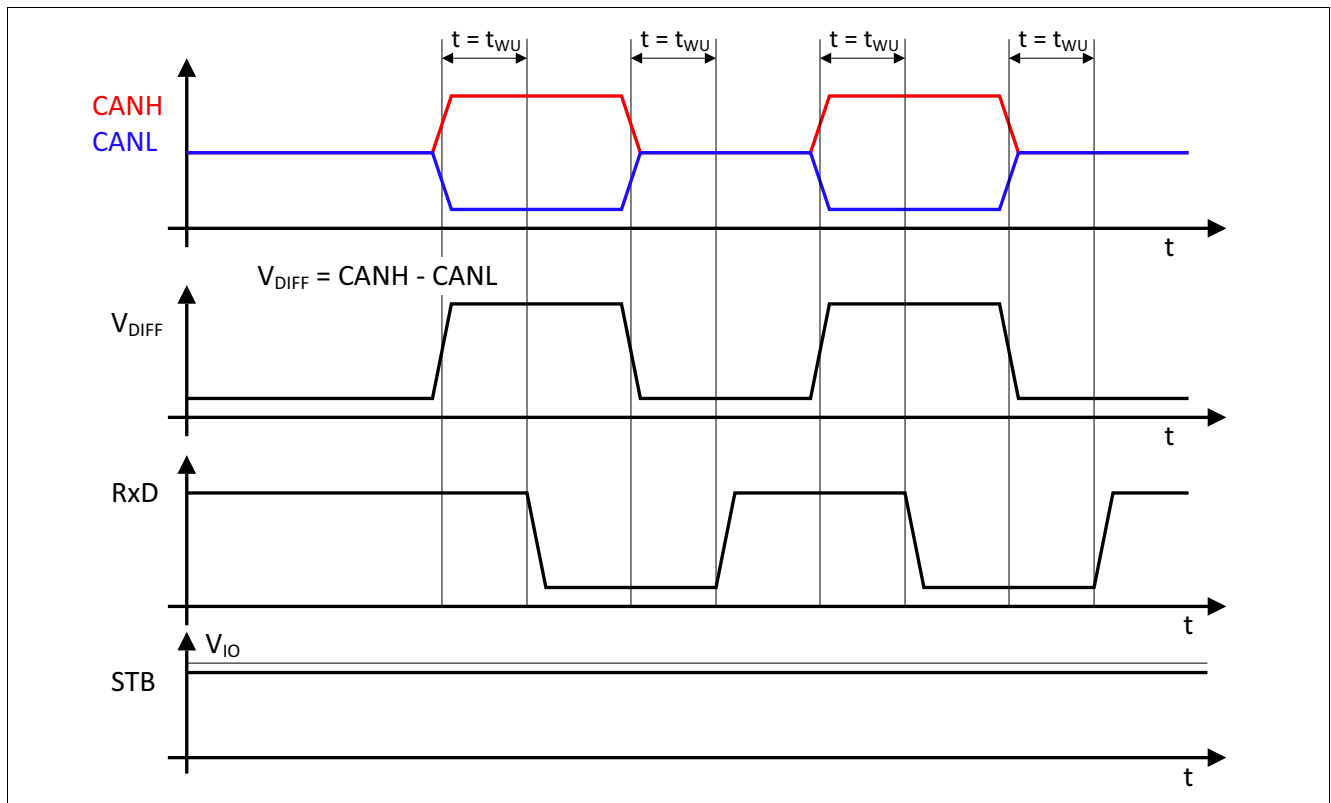

Figure 5 Wake-up pattern
- The RxD output is “high”, in case no wake-up signal on the CAN bus is detected (see Figure 5).
- The RxD output toggles according to the wake-up signal on the CAN bus (see Figure 5).
CAN bus signals, “dominant” or “recessive”, with a pulse width above the bus wake-up time  $t > t_{WU}$  are indicated on the RxD output pin (see **Figure 5**).